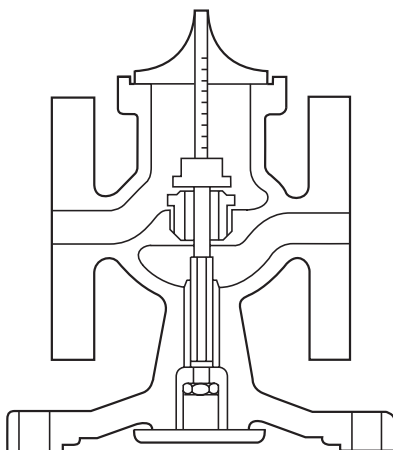

Fig. 10
2. Undo the union nut (27C) and the pressure pipe union nut (29) and release the 6 mm stainless steel pipework.
3. Undo the 4 nuts (21) and remove the pilot valve housing (10) complete with the spring housing assembly.
4. Remove the main valve return spring (16) and the main valve (17).
5. Using a socket (see Table 2) remove the main valve seat (18).
9. Where a part had been fitted or where extensive lapping has taken place, it will be necessary to reset the main valve pushrod (26) to give the correct valve lift.
11. Refit the pushrod (26) and replace the main valve (17) making sure it is located onto the main seat.
12. The main valve can now be opened by pushing on the main diaphragm plate (25) until it comes up against the stop on the body, see Figure 10. Check the valve lift by using a depth gauge as shown.
13. If the lift is different from that shown in the Table 3, slacken the lock-nut (30) and adjust the lift by screwing the pushrod (26) in or out of the main diaphragm plate (25). When the lift is correct, retighten the lock-nut (30).